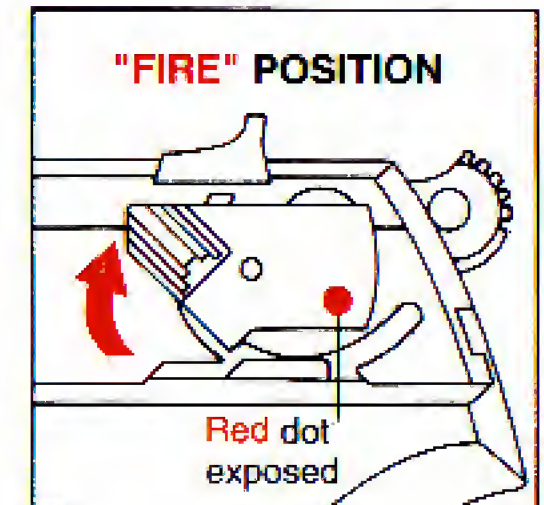

FIGURE 2
8. If the pistol is to be fired immediately, the manual safety can be rotated upward to its "fire" position (see Figure 2, p. 5). The firing pin is still blocked at all times by the internal firing pin block unless the trigger is pulled all the way to the rear.